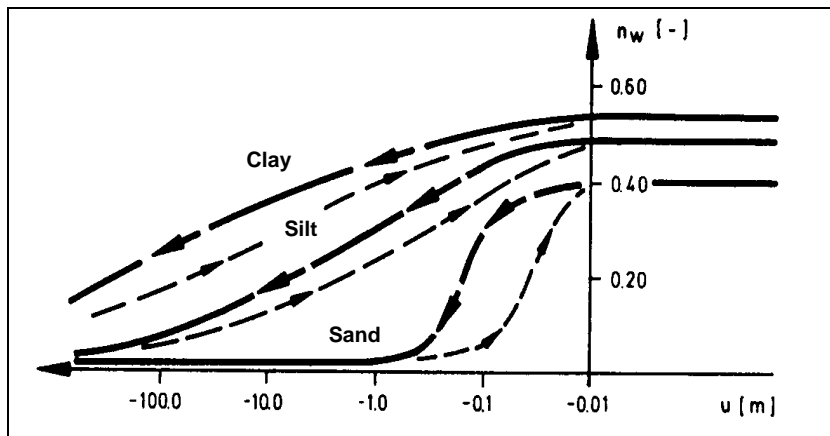

Figure 1 Function curves $n_w = f(u)$
- Using the **"Time BC/Soil properties"** menu item, you can query the soil properties which you defined in **GGU-SS-FLOW2D**. This list is supplemented by information on the specific storage coefficient. In the case of a vertical-plane system, you can define your specific soil curves, using modelling points and according to soil type, by clicking on the **"nw = f(u)"** field (*cf.* Figure 1 further below).
The value for n_w can also be entered here. The value of n_w gives the volume of water relative to the total volume. It is a dimensionless variable and is a function of the porewater pressure u . Typical function curves for various soil types are shown in Figure 1: